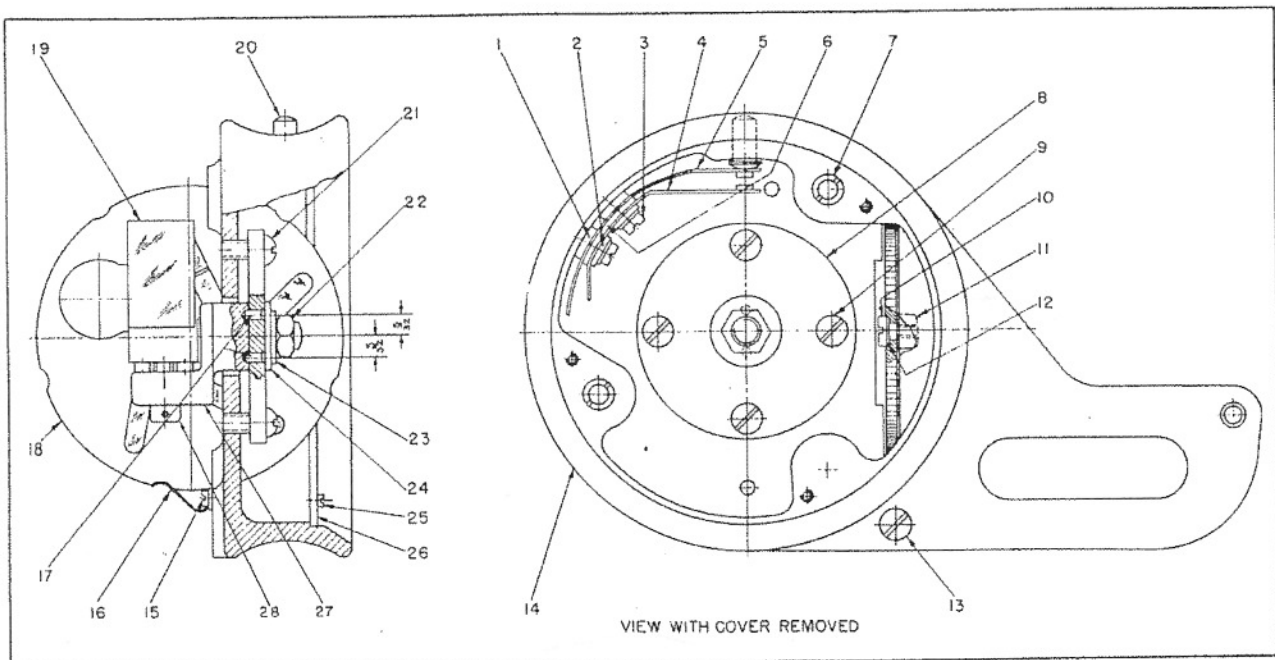

Figure 23 - Left Side - Sectional View - Aircraft Sextant - Type A-7 (3003-A, 3003-B)
(2) TO REMOVE TELESCOPE ASSEMBLY. - Remove the four screws from the right side plate and one screw from the left side plate. Carefully lift the telescope assembly from the side plates.
(3) TO SEPARATE LEFT AND RIGHT SIDE PLATE ASSEMBLIES (Refer to figure 23).
(SEE Fig. 23)